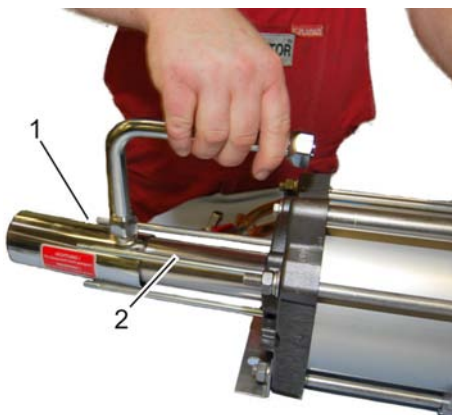

Fig. 85: Cooling pipe and high pressure pipe
5. ➔ Carefully slide cooling pipe and high pressure pipe (Fig. 85/1) over high pressure cylinder (Fig. 85/2).